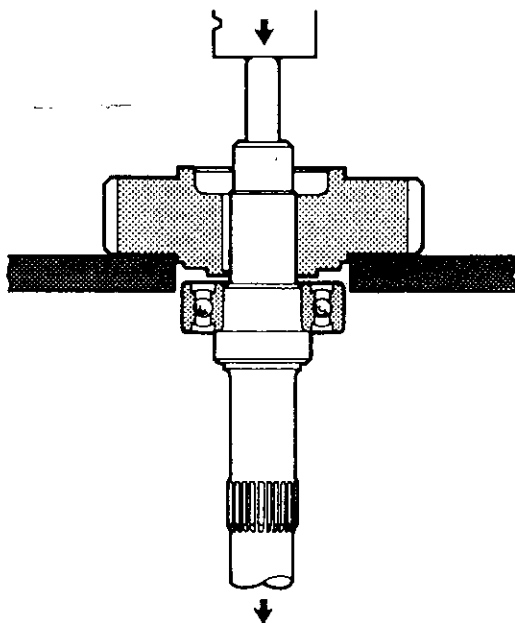

Figure 4.9
16. Reverse drive shaft in arbor and, after supporting drive shaft gear, press out shaft and bearing from drive gear. Remove drive shaft gear key (27). See Figure 4.9.